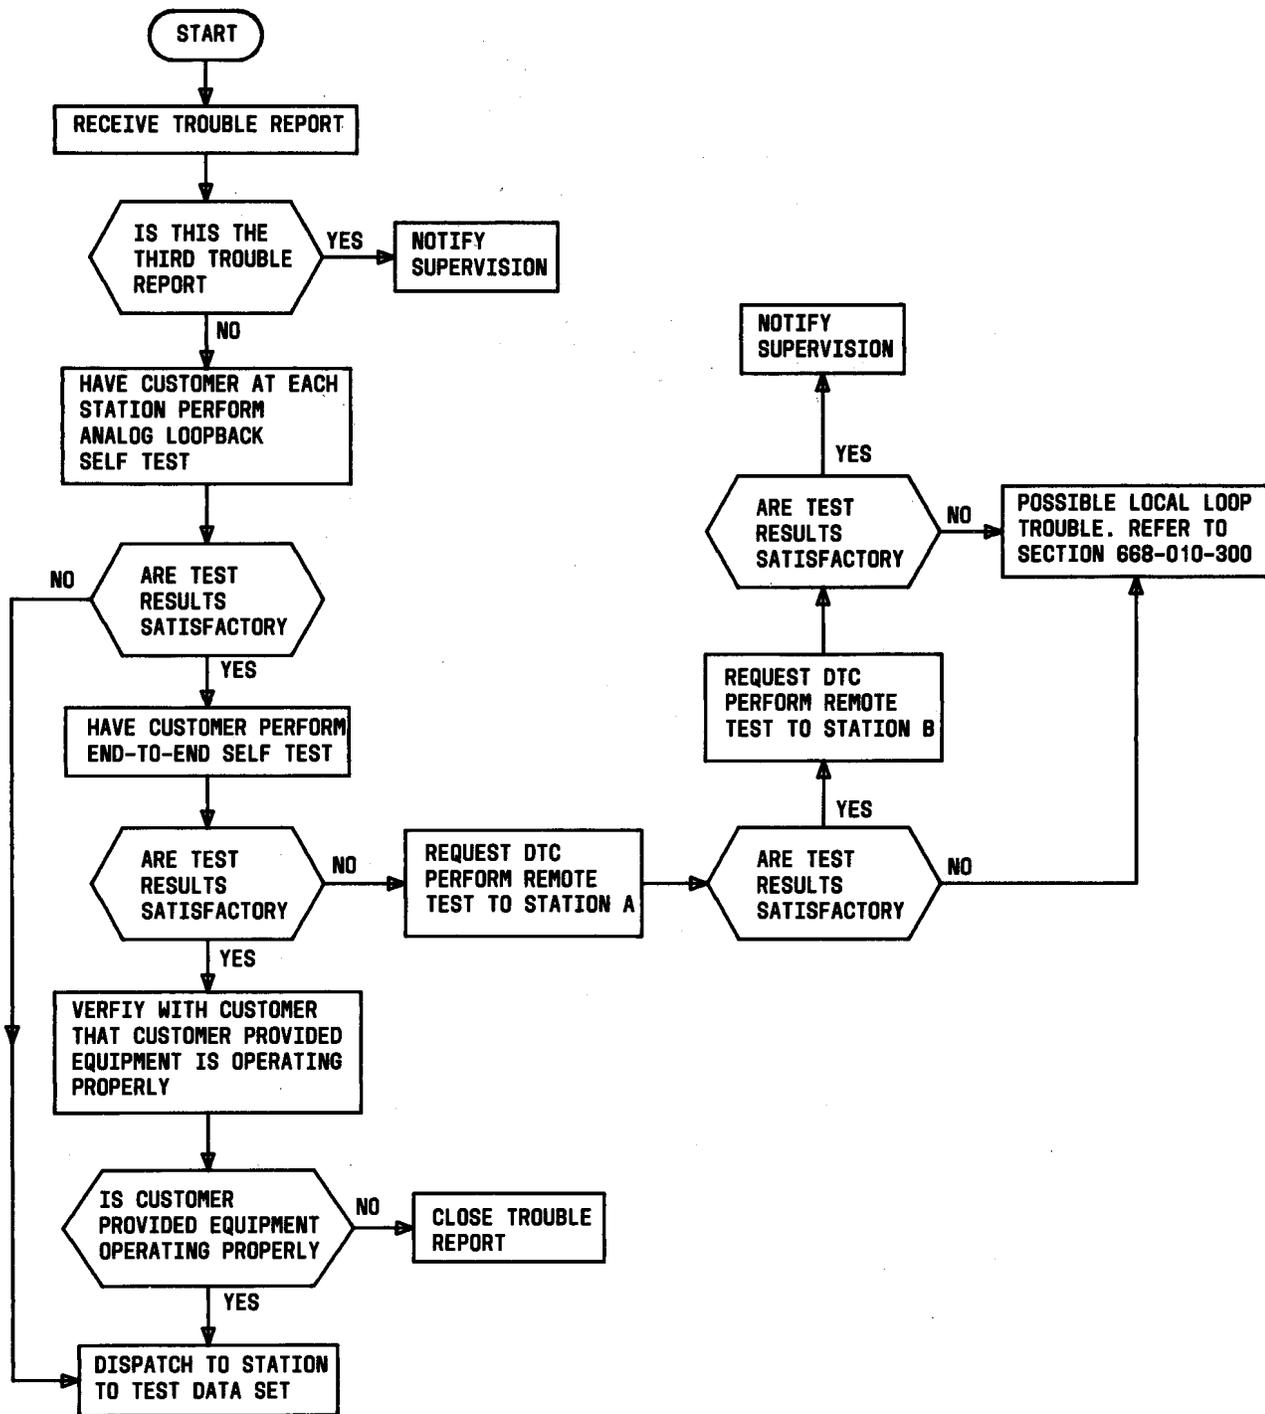

Fig. 5—Clearing Trouble Report (2-Wire Switched Network)
**3.02** When a trouble report is received, a test center is responsible for isolating the trouble to the data station or the transmission facility. The procedure for doing this is shown in Fig. 5